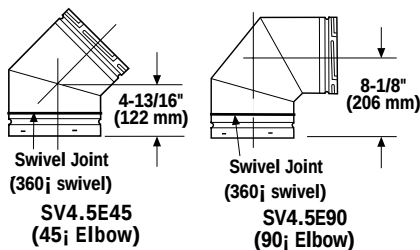

Figure 18
H. Change vent direction to horizontal/inclined run - At transition from or to a horizontal/inclined run, install the SV4.5E45 and SV4.5E90 elbows in the same manner as the straight vent sections. The elbows feature a twist section to allow them to be routed about the center axis of their initial collar section to align with the required direction of the next vent run element. **Twist elbow sections in a clockwise direction only so as to avoid the possibility of unlocking any of the previously connected vent sections.** See **Figure 18**.
Analyze the vent routing and determine the types and quantities of sections required 4-1/2" (114 mm), 10-1/2" (267 mm), 22-1/2" (572 mm), 34-1/2" (876 mm) and 46-1/2" (1181 mm) net section lengths are available. Plan the vent lengths so that a joint does not occur at the intersection of ceiling or roof joists. Make allowances for elbows as indicated in **Figure 18 on page 13**.
J. Change vent direction - At transition from or to a horizontal/inclined run, install the SV4.5E45 and SV4.5E90 elbows in the same manner as the straight vent sections. The elbows feature a twist section to allow them to be routed about the center axis of their initial collar section to align with the required direction of the next vent run element. **Twist elbow sections in a clockwise direction only so as to avoid the possibility of unlocking any of the previously connected vent sections.** See **Figure 18 on page 13**.